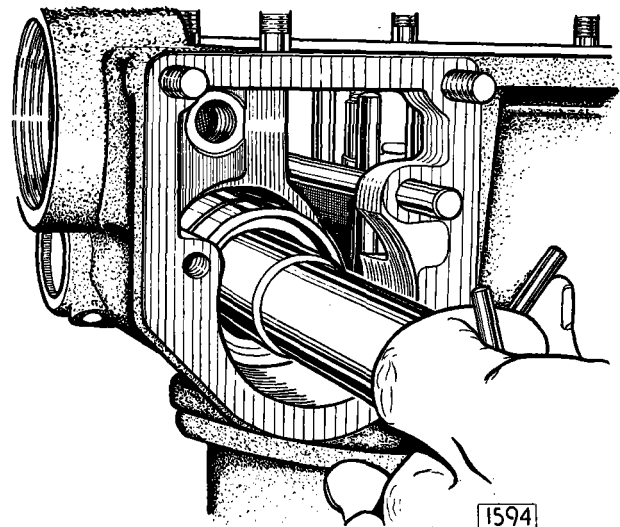

Fig. 39. Extracting the accumulator piston housing.
2. The accumulator spring or springs in the instance of the 3.8 litre model, followed by the piston housing assembly and piston can now be withdrawn (see Fig. 39).